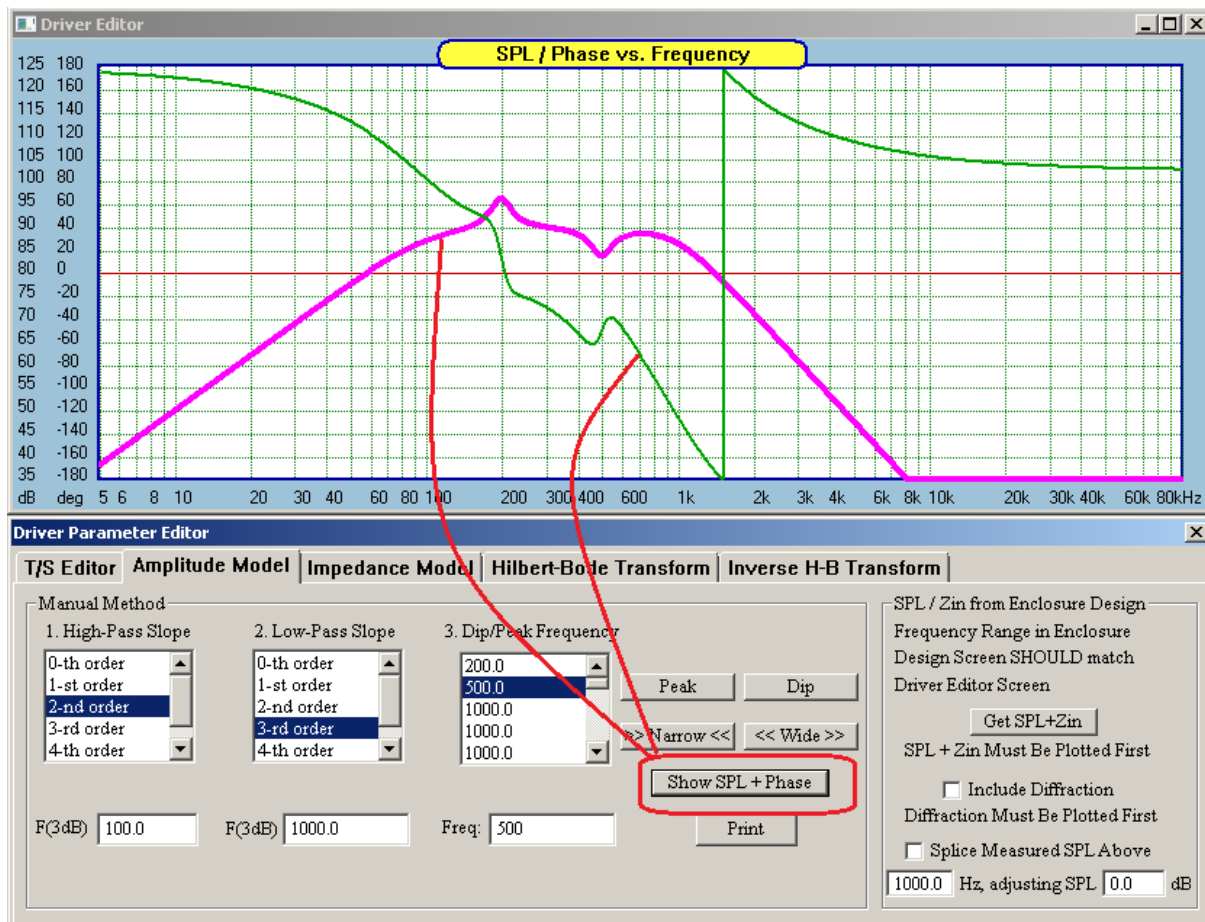

Fig 2.9 Edited SPL with a number of dips and peaks.
In general, frequency response of all electro-dynamic loudspeakers can be compared to a band-pass filter. If all small ripples on the frequency response are disregarded, it is easy to observe the three main regions of the curve: (1) rising slope below the free-air resonant frequency followed by (2) reasonably flat section which is most useful to the designer and finally (3) roll-off section, where the driver loses its ability to maintain cone excursion. With the above in mind, there is a good argument in commencing the modeling of the frequency response as a band-pass filter and then adding all small individual ripples. This method can be very accurate if enough ripples are added. However, for many applications, a good approximation can be accomplished with as little as 10-15 ripples added to a band-pass filter frequency response. The only additional information necessary for the user to supply is the SPL efficiency parameter entered from the main screen. This will determine the overall SPL level of the whole curve. Please enter 90.0 in the “Efficiency” data field now. Entering frequency response is accomplished with the help of “Amplitude Model” tab box. The box is shown on Figure 2.9.
After examining the frequency response of the driver, it should be possible to approximately determine the three regions and order of the rising (high-pass) and falling (low-pass) slopes. Having done this, you need to select those orders by clicking left mouse button above the appropriate list box titled “1. High-Pass Slope” and “2. Low-Pass Slope”. The associated cut-off frequencies of the filter approximations need to be entered in the associated data fields below the list boxes. Figure 2.9 shows 2-th and 3-rd orders respectively. The frequency response of our band-pass approximating filter can now be displayed by pressing on “→ ←” (means narrower) or “← →” (means wider) buttons. Next step is to add all small ripples onto the band-pass filter curve. The default values for all 50 available ripples is 1000.0 and are displayed in the “3. Dip/Peak Frequency” list box. Please click on the first list box item – 1000.0 Hz. This will select the frequency to be edited in the data field available below the list box. Now, edit the frequency by entering the right value, say for the most-left ripple – you will see the value in the list box also changes. Now, you have four buttons available to determine the shape of the ripple: (1) “Peak”, (2) “Dip”, “→ ←” and “← →”. Pressing repeatedly on all four buttons will shape the ripple and automatically re-plot the frequency response. Once the shape of the ripple has been finalized, please click on the second item in the list box and edit the second ripple frequency and determine its shape. Please continue till you are satisfied with the total frequency response.